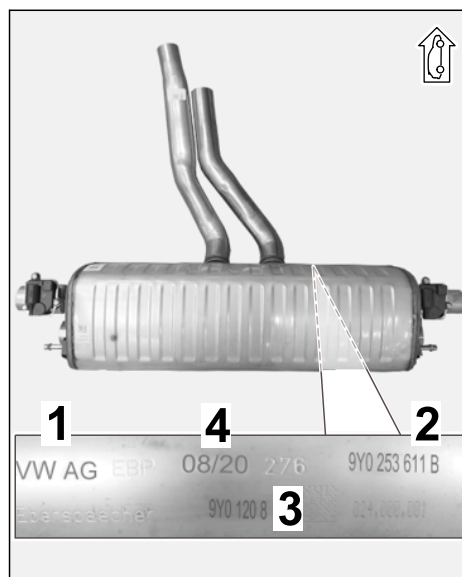

Figure 4
– Rear silencer (⇒ *Figure 4*):